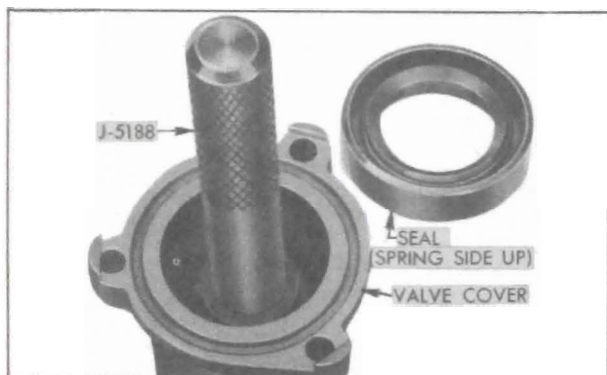

Figure 8-28—Installing Valve Cover Seal
17. Remove the seal and the control shaft lower bearing from hydraulic valve cover with a punch. Press a new bearing into cover. Use Installer J 5188 to press the new seal into cover, with spring side of seal outward toward shoulder of tool. See figure 8-28.